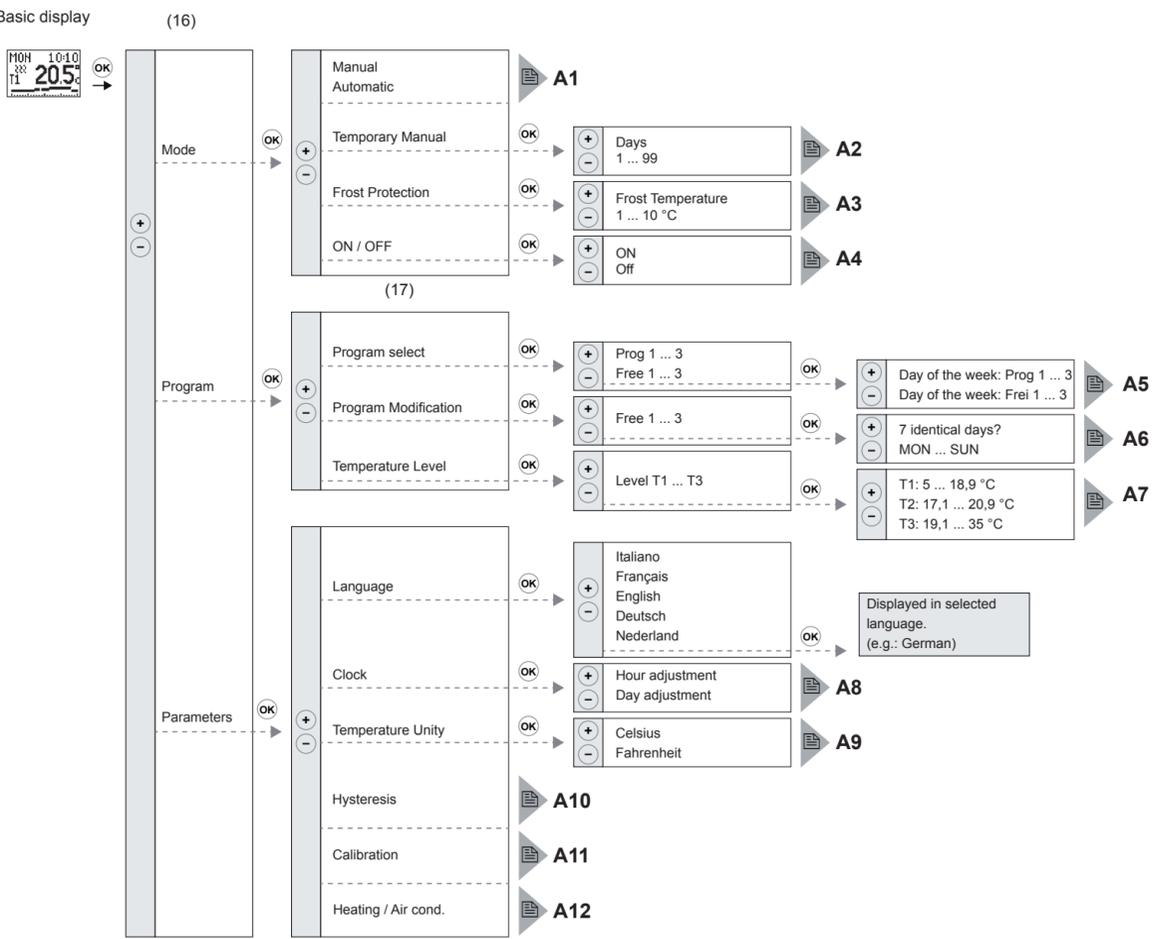

Figure 4: Menu overview
The operating mode (*Heating* or *Cooling*) is set (see Start-up) and the device is in the Programme submenu (Figure 4, 17).
- Press the **OK** button. The main menu (Figure 4, 16) is open and the first menu item displayed. The display is illuminated.